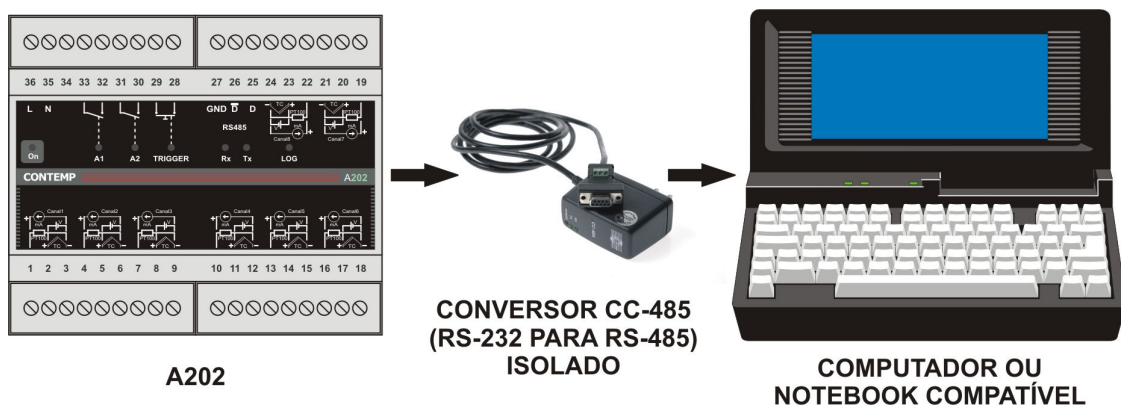

Figura 1
1. Conectar o A202 conforme **Figura 1**;